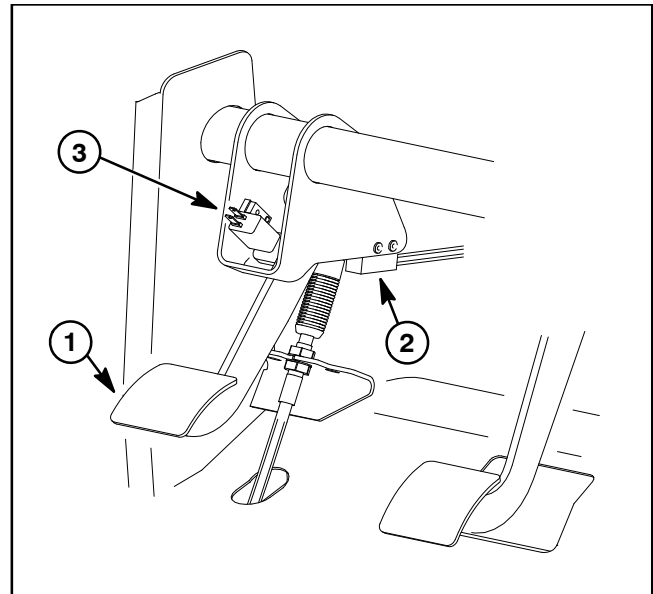

Figure 11
A proximity switch is attached to the frame under the dash of all units (Fig. 11). The switch is in its normal open position as long as the clutch pedal is released (clutch engaged). When the clutch pedal is depressed (clutch disengaged), the pedal is positioned close to the clutch switch causing the switch to close. The closed clutch switch is used in the starting interlock system to make sure that the drive system is disengaged during engine starting.
An additional switch is attached to the frame under the dash of 4WD units only (Fig. 11). The terminals of this switch are closed when the clutch pedal is released (clutch engaged – clutch pedal depressing switch plunger). In this position current is allowed to pass through the switch to energize the 4WD relay. When the clutch pedal is depressed (clutch disengaged – clutch pedal not contacting the switch plunger) the terminals switch to the normally open state, and the current path to the relay is broken.
1. Park vehicle on a level surface, shut engine off, remove key from ignition switch and apply parking brake. Locate the clutch switch (Fig. 11).